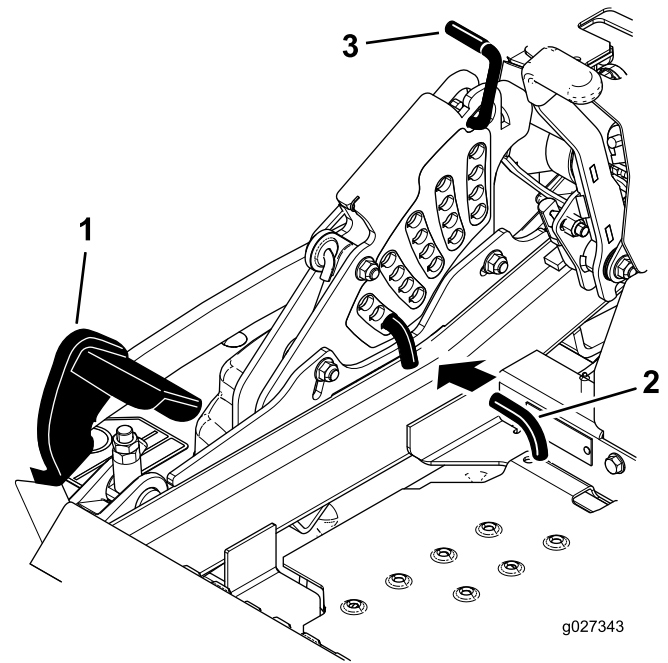

Figure 93
5. Push the deck-lift pedal all the way forward so that the deck latches at the 14 cm (5-1/2 inches) transport position (Figure 93).